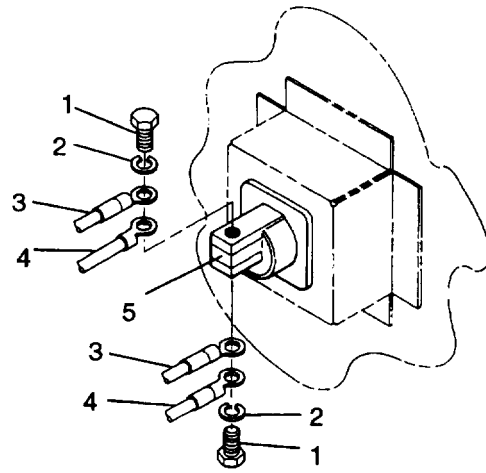
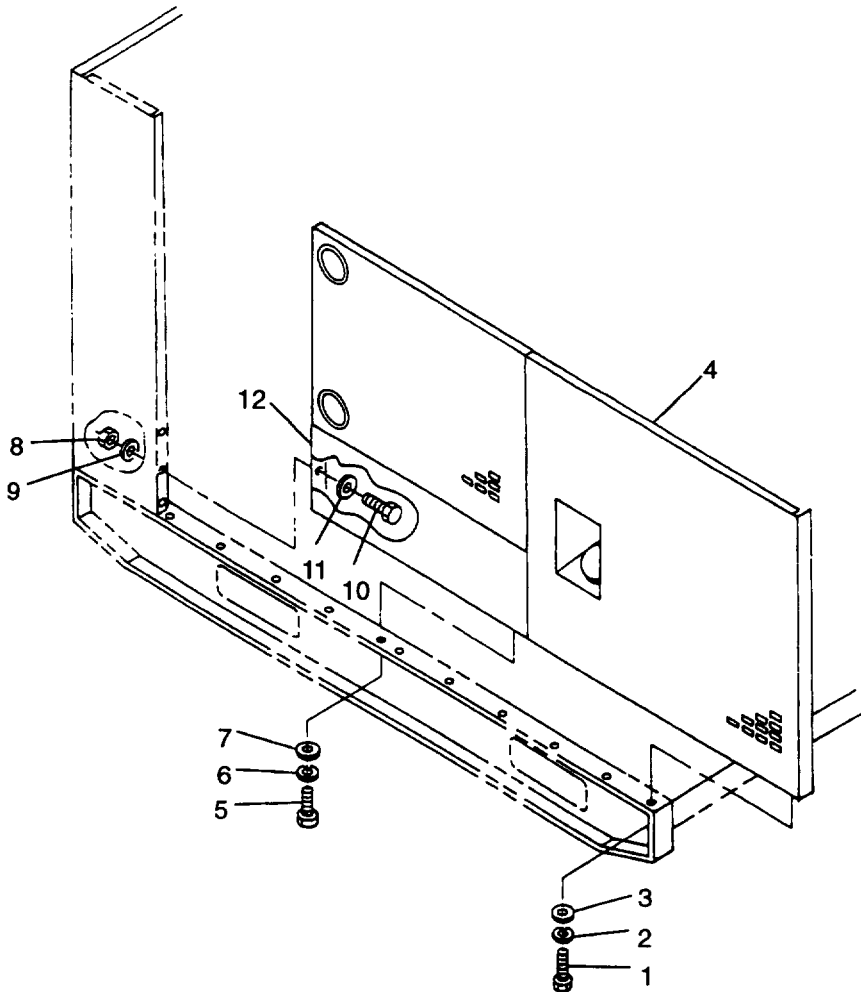
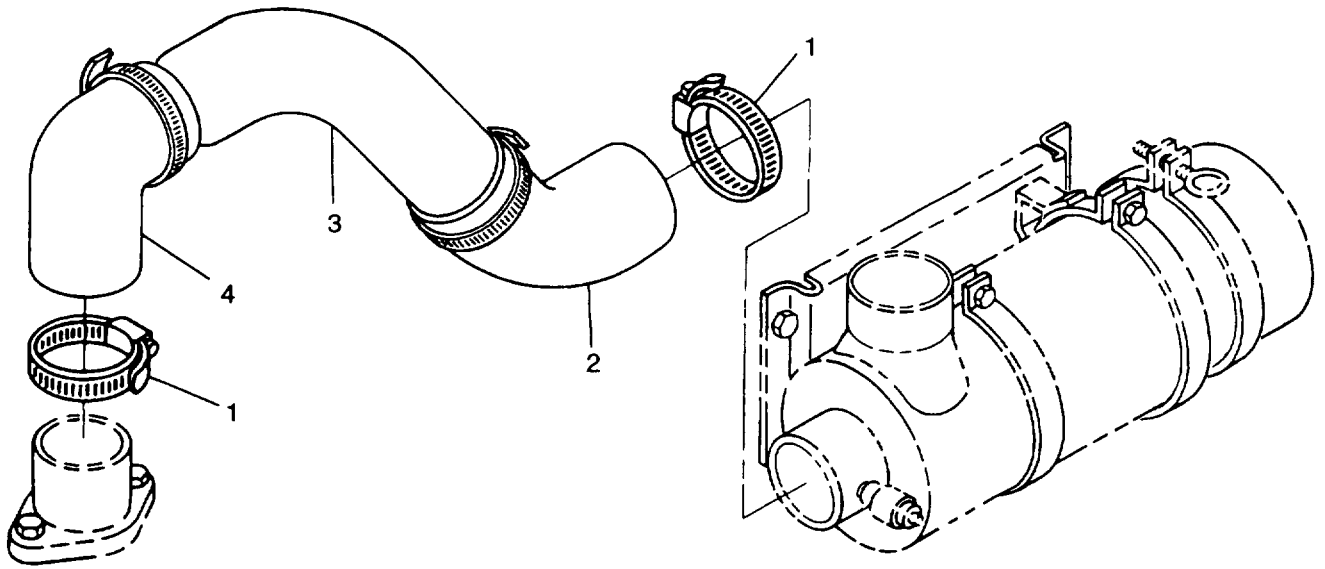

FIGURE 3-9. NATO Slave Receptacle
FIGURE 3-10. Left Side Housing Panels
FIGURE 3-11. Air Cleaner Assembly
- ae. Remove bolts (1, FIGURE 3-9), lockwashers (2), battery cables (3), and slave cables (4) from NATO slave receptacle (5).
- af. Remove bolts (1, FIGURE 3-10), lockwashers (2), and washers (3) securing left rear side panel (4) to skid base.
- ag. Remove nuts (8), lockwashers (6) and (9), washers (7) and (11), and bolts (5) and (10) securing lower left side panel (12) to front housing and skid base.
- ah. With aid of an assistant, remove left rear side panel (4) and lower left side panel (12) as an assembly.
- ai. Loosen clamps (1, FIGURE 3-11) and remove air intake hoses (2), (3), and (4) as an assembly.
- z. Position air intake hoses (2, 3, and 4, FIGURE 3-11) in generator set and tighten clamps (1).
- aa. With aid of an assistant, position left rear side housing panel (4, FIGURE 3-10) and lower side panel (1 2) on generator set.
- ab. Secure left rear side panel (4) to skid base with bolts (1), lockwashers (2), and washers (3).
- ac. Secure lower left side panel (12) to front housing and skid base with bolts (5) and (10), washers (7) and (11), lockwashers (6) and (9), and nuts (8).
- ad. Connect battery cables (3, FIGURE 3-9) and slave cables (4) to NATO slave receptacle (5) with bolts(1) and lockwashers (2).